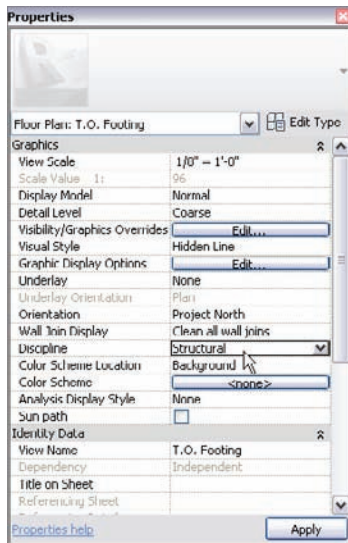

FIGURE 8.69 Changing Discipline to Structural
3. In the Discipline category of the View Properties, select Structural from the list, as shown in Figure 8.69. The sections disappear.